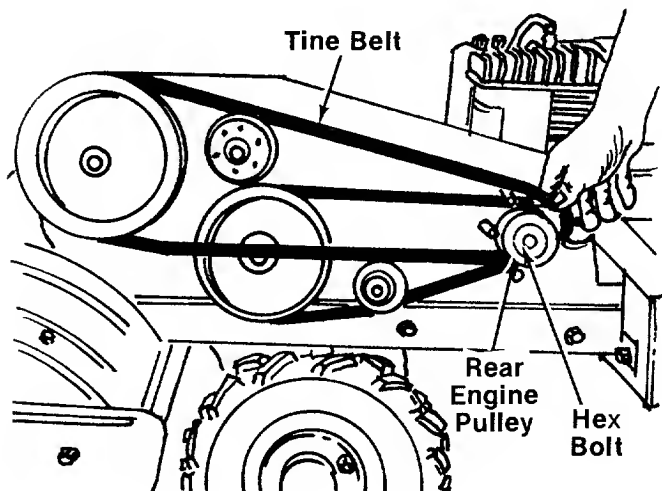

FIGURE 24.
4. Loosen, but do not remove, the hex bolt on the rear engine pulley. See figure 24.
2. Remove the hex bolt, lock washer and flat washer from the rear engine pulley. See figure 24. Slip the rear engine pulley off the engine.